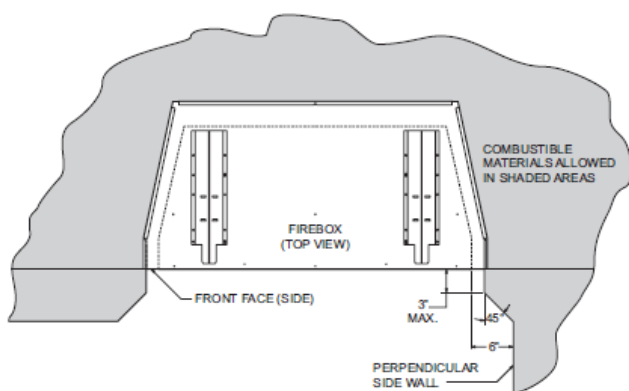

Figure 1
- **Sidewall Clearances:** The clearance from the inside of the firebox to perpendicular combustible side wall should not be less than 6". See Figure 1.